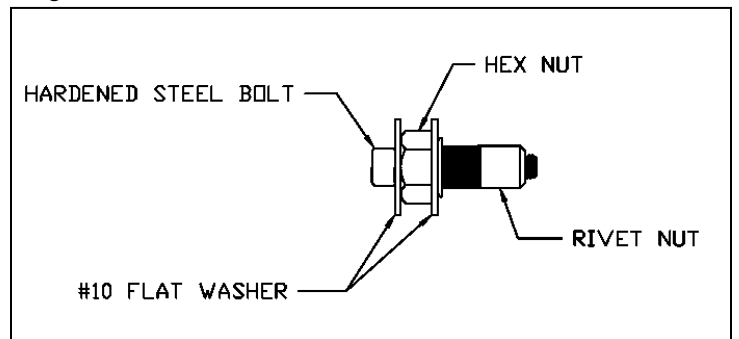

Figure 2
- Place a #10 flat washer, hex nut, another #10 flat washer and rivet nut on black hardened steel bolt, shown in **Figure 2**, and place in drilled hole. Use a **7/16"** wrench to hold nut and **5/32"** hex bit to turn the hardened steel bolt until rivet nut is tightened down. (**Do not install with drill, use hand tools only**). Remove hardened steel bolt, flat washers and hex nut. Repeat in all four holes.